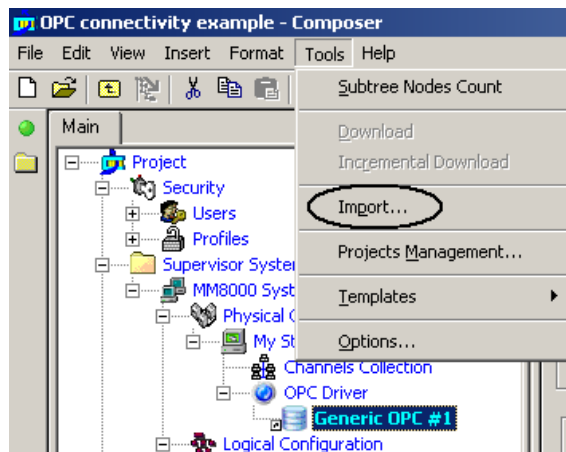

Fig 7 Start importing OPC items in CSV data
- Select the link node and then the menu: Tools → Import (Fig 7)